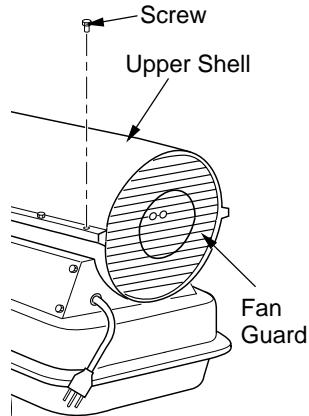

Figure 8 - Upper Shell Removal, 110/115/150/155/165/200 Models Only
1. Remove side cover (see Figure 17), fan guard, and upper shell (see Figure 8, page 8) screws using 5/16" nut-driver.